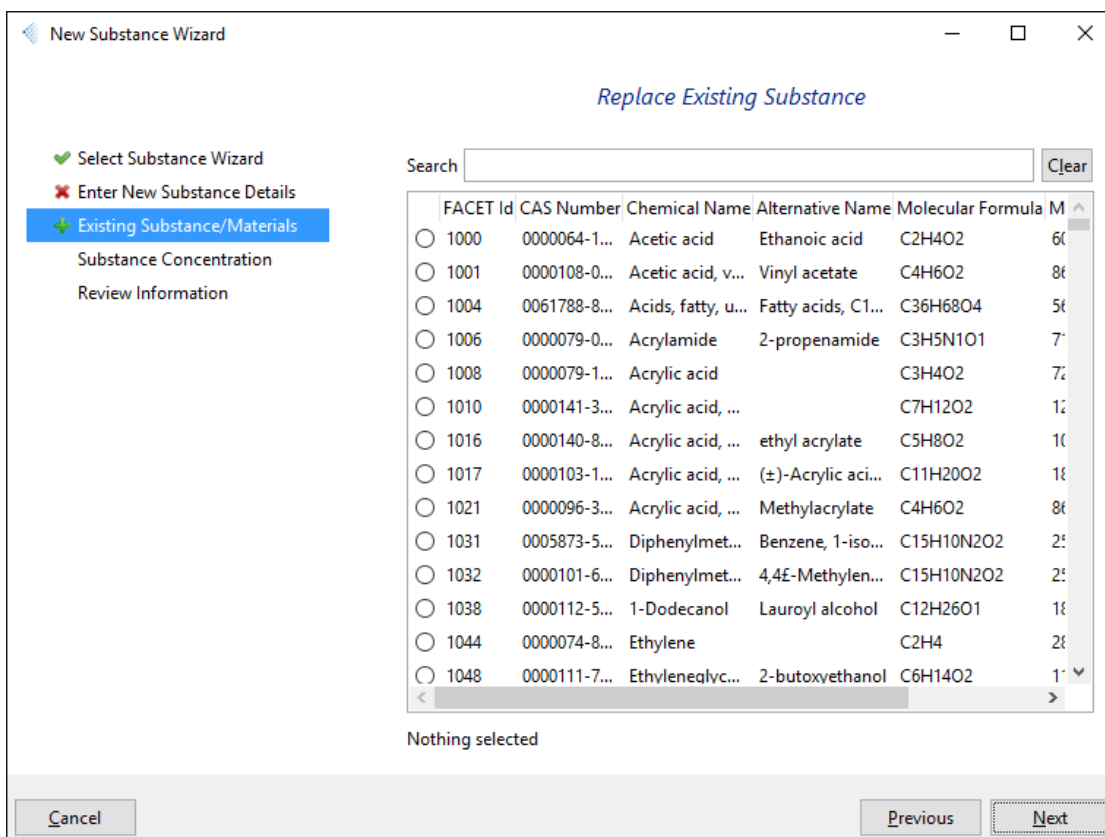

Figure 92: Select the substance to replace or associate the NIAS/Substance with
1. Select the substance to replace or associate the NIAS/Substance with (Figure 92)